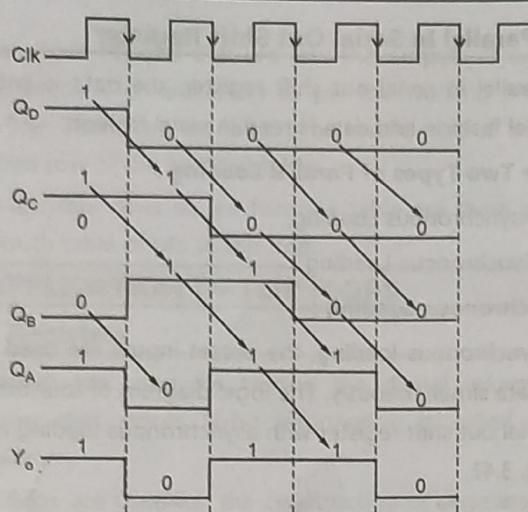

Fig. 3.42
- For example, let us assume the data stored in a shift register is 0101 and it will be read from the output line Y_O . How the data is read from the shift register is given in Table 3.25 and waveforms of shift register for serial out are shown in Fig. 3.42.